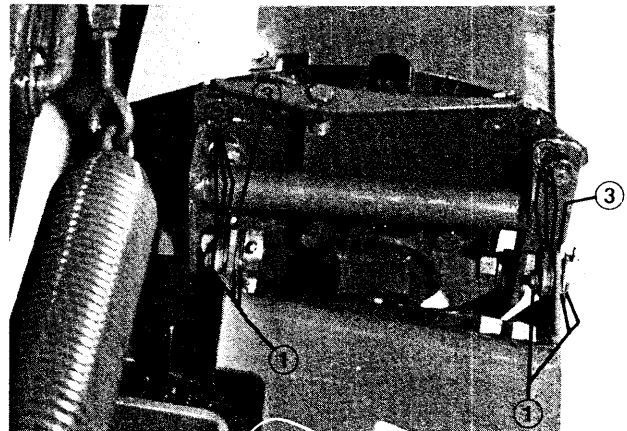
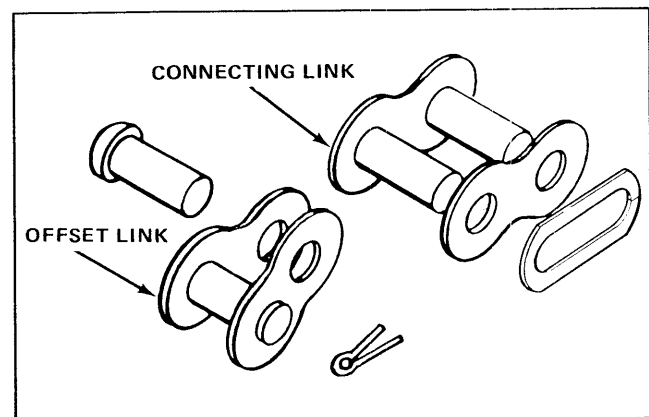

Figure 34
Figure 37
1. Remove screws, washers and locknuts securing shims to intermediate frame at each corner of frame (Fig. 34).
If tension is correct, install screws, washers and locknuts and continue operation (Fig. 34).
1. Move shims back to original side of intermediate frame (Fig. 34).
2. Remove chain from mower and remove (1) one chain link.
3. Install (1) one offset link (Fig. 37). Offset link may be obtained from your Toro Distributor.